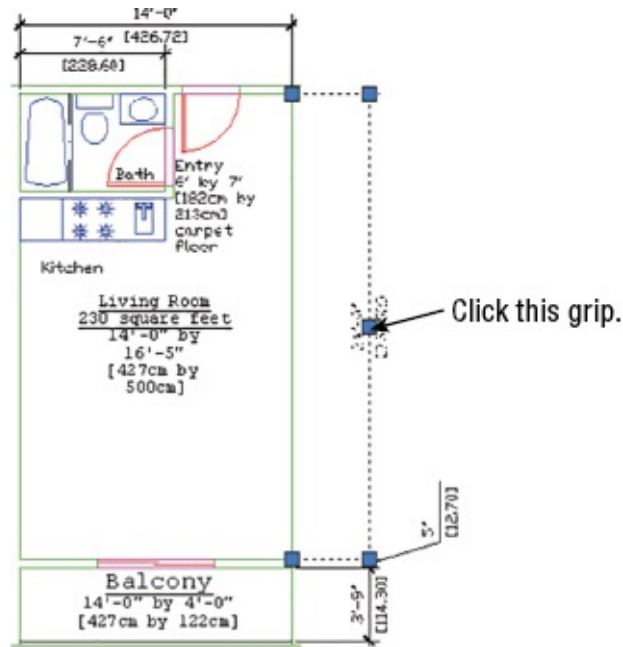

FIGURE 11.18 The grip points are the same as the definition points on a dimension.
2. Click the longest of the three vertical dimensions that you drew in the earlier exercise. You'll see the grips of the dimension, which is shown in Figure 11.18.